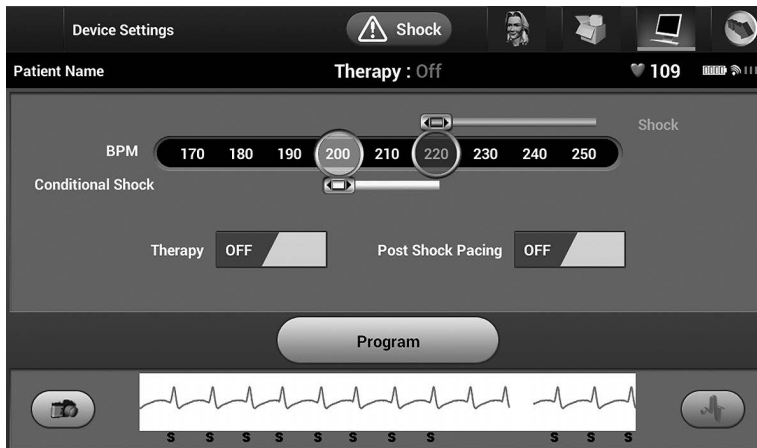

Figure 14: Device Settings screen
3. Select the Device Settings icon on the Navigation Bar to display the Device Settings screen (Figure 14 on page 35).